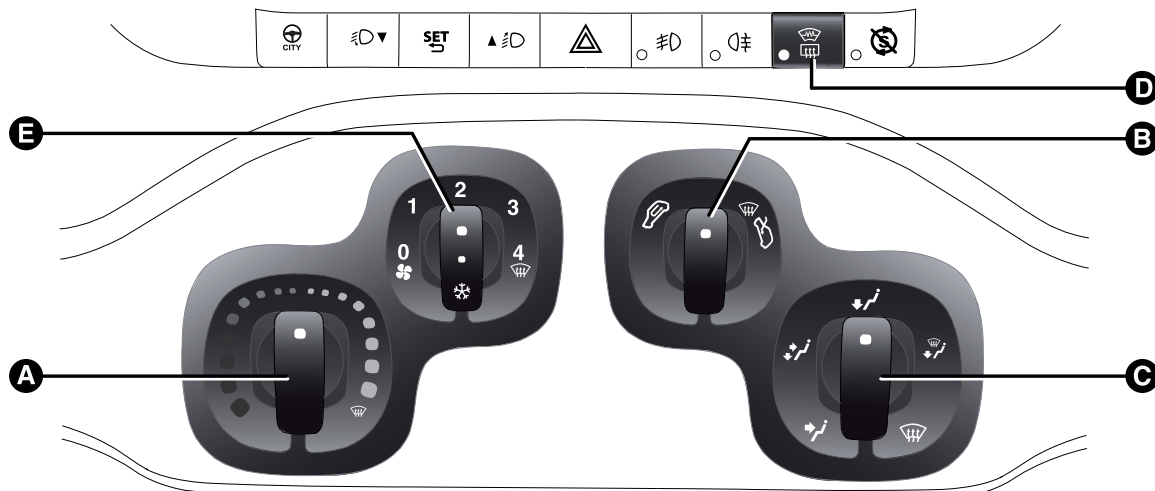

fig. 29
A Air temperature knob (red=hot/blue=cold)fig. 29
B Air recirculation knob fig. 29
C Air distribution knob fig. 29
D Heated rear window, folding mirror/heated windscreen (for versions/markets, where available) activation/deactivation button fig. 29.
E Fan speed and climate control system activation/deactivation knob fig. 29 (for versions/markets, where provided). Press the knob to activate the climate control system; the LED on the knob switches on. This enables rapid cooling of the passenger compartment. .
☐ turn knob A fig. 29 to the blue section;
- ☐ turn knob A fig. 29 to the blue section;
- ☐ turn knob A fig. 29 to the right to increase the temperature;
- ☐ turn knob A fig. 29 to the red section;